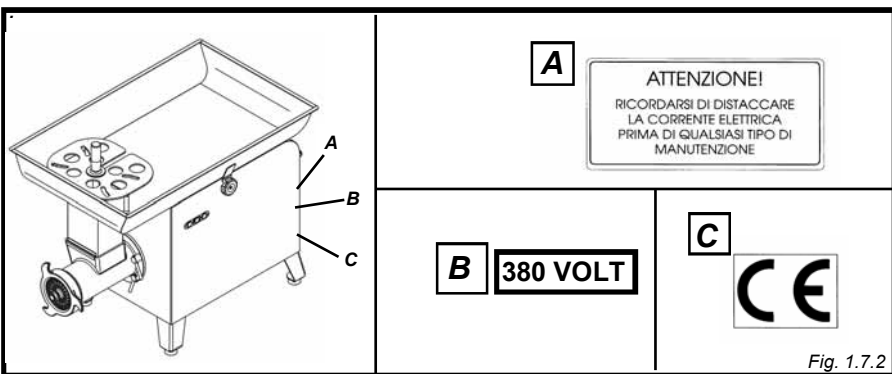

Fig. 1.7.2
**1.7.1 - Danger and warning plates (fig. 1.7.2)**